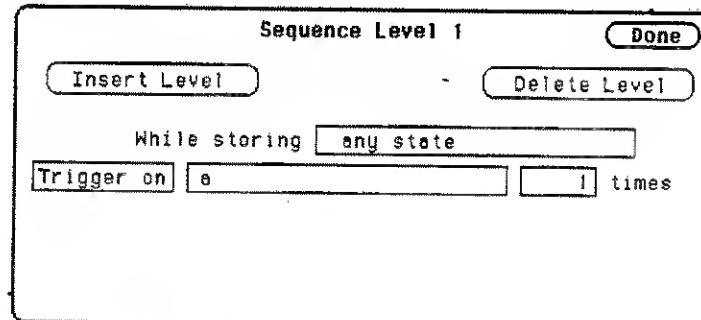

Figure 15-8. Sequence Level Pop-Up Menu
Not all sequence level pop-up menus look like this one. This happens to be the trigger sequence level in which you specify the state on which the analyzer is to trigger. The trigger term can occur in any of the first seven levels, and it is not necessarily a selectable field. The fields in the menu of figure 15-8 are described on the following pages.
In the example of figure 15-8, the branching qualifier tells the analyzer when to trigger. In other sequence levels, the qualifier may simply specify a state that the analyzer is to look for before continuing to the next level.
**Storage Macro** Your logic analyzer has the capability of post-trigger storage through a storage macro. The storage macro is available only in the second to last level, and it consumes both that level and the last level. The field in figure 15-8 allows you to configure the state analyzer for post-trigger storage. This field does not always say Trigger on. If the sequence level is not a trigger level, the field will say Then find, as shown below.